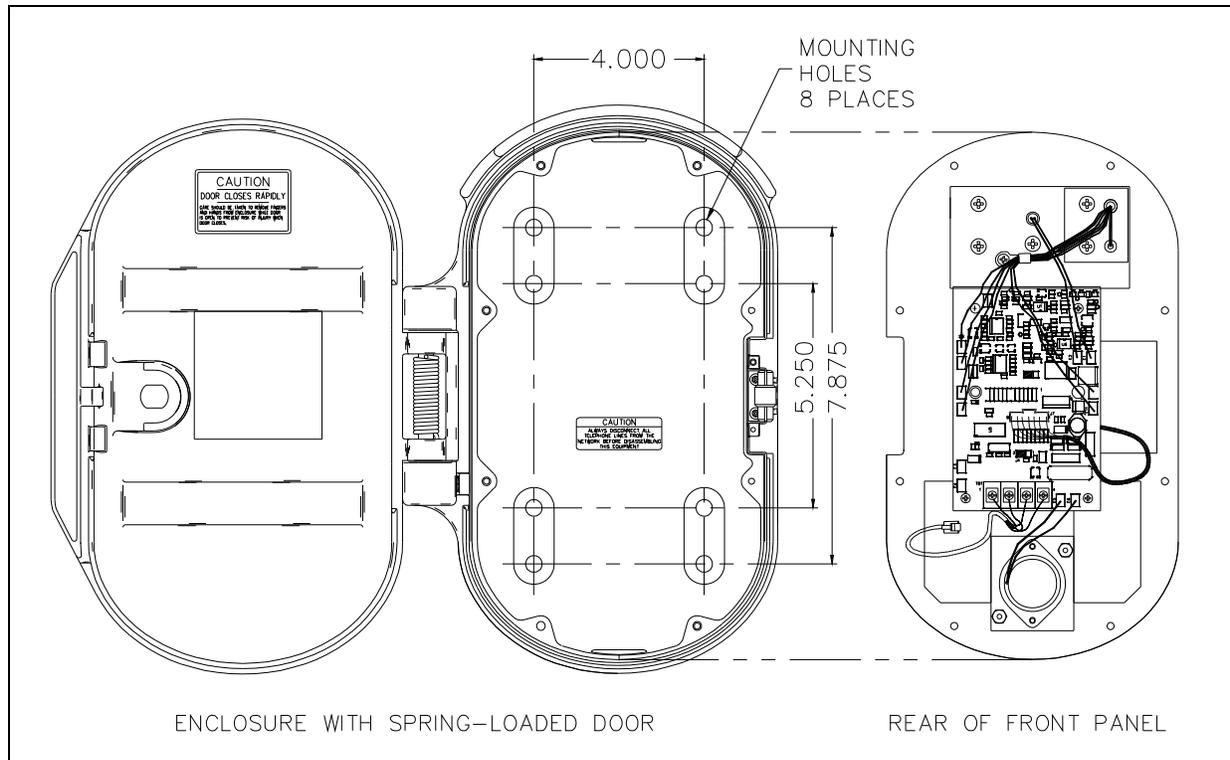

Figure 5. Model 226-001 Outline and Mounting Drawing
2. Determine which hole pattern to use for mounting (see Figure 5).